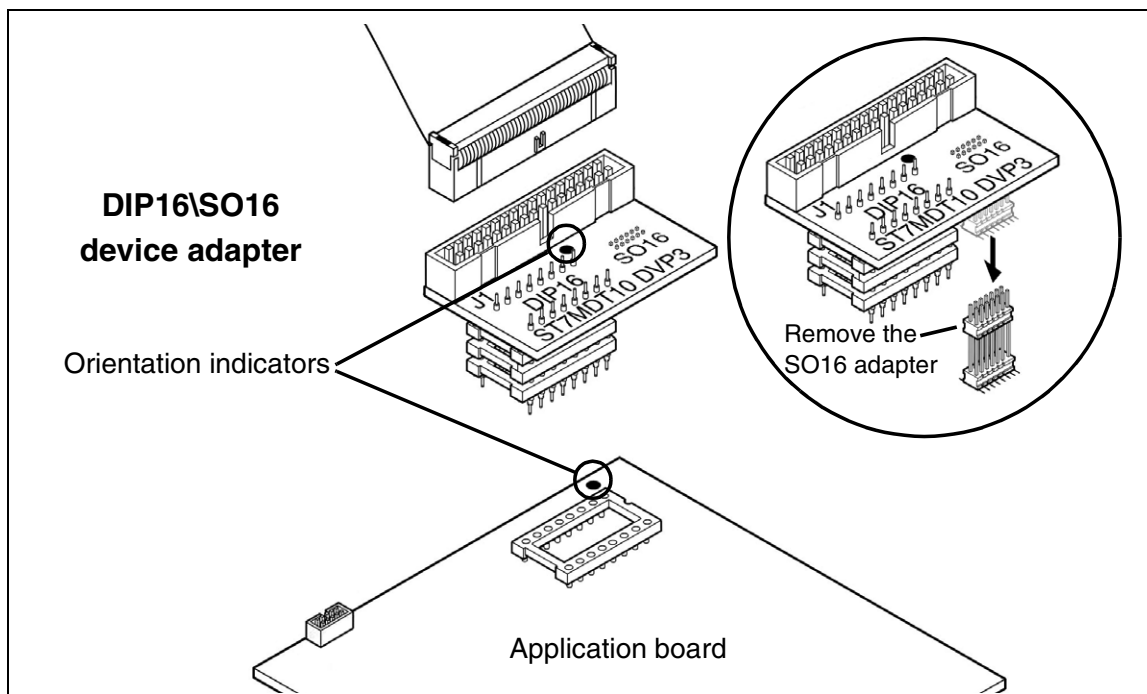

Figure 5: DIP16 connection to application board
- 4 Plug the other end of the 34-pin flat cable into J1 on the DIP16/SO16 device adapter (ref.: DB587), as shown in Figure 5. Because of the orientation guides there is only one possible way to connect them.
- 5 If the SO16 connector is plugged into the device adapter, remove it as shown in the inset illustration in Figure 5. It is not used in this configuration.
- 6 Insert the pins of the device adapter's DIP16 adapter into the socket that is soldered on your application board (see Figure 5). Use the orientation indicators on the device adapter and on your application board to ensure that the socket's pin number 1 is aligned with pin 1 on the device adapter.